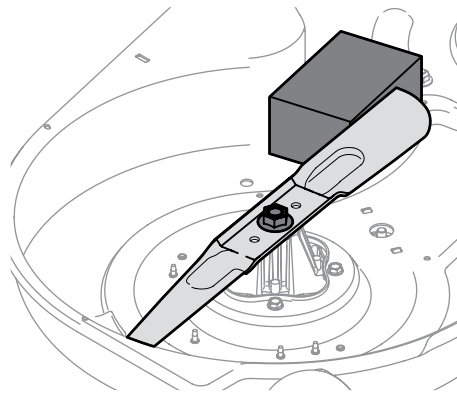

Figure 4-6
- Place a block of wood between the deck housing baffle and the cutting blade to act as a stabilizer. See Figure 4-6.
- Remove the hex flange nut that secures the blade to the spindle assembly. See Figure 4-6.